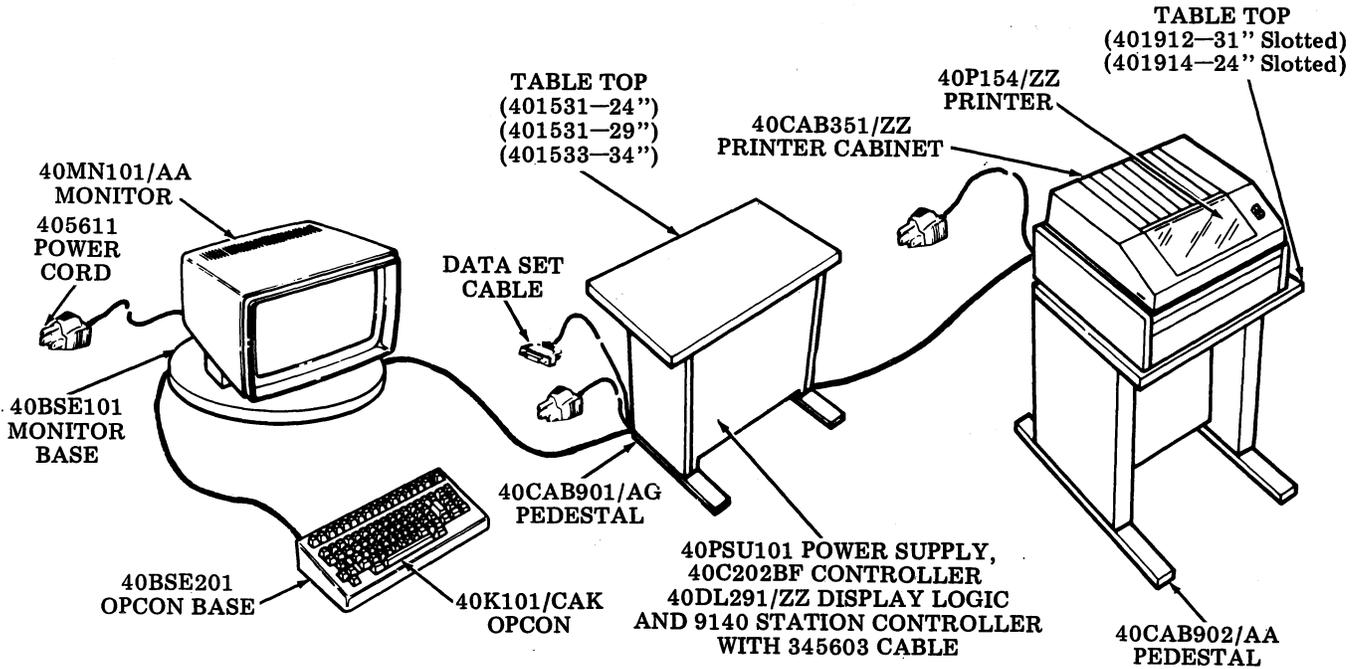

Fig. 8—KDP Station (80-Column Tractor Feed)
2.10 Free-standing KDP Stations with a separate pedestal for tractor feed printers are shown (Fig. 8 and 9). 408890 modification kit is required for these arrangements.